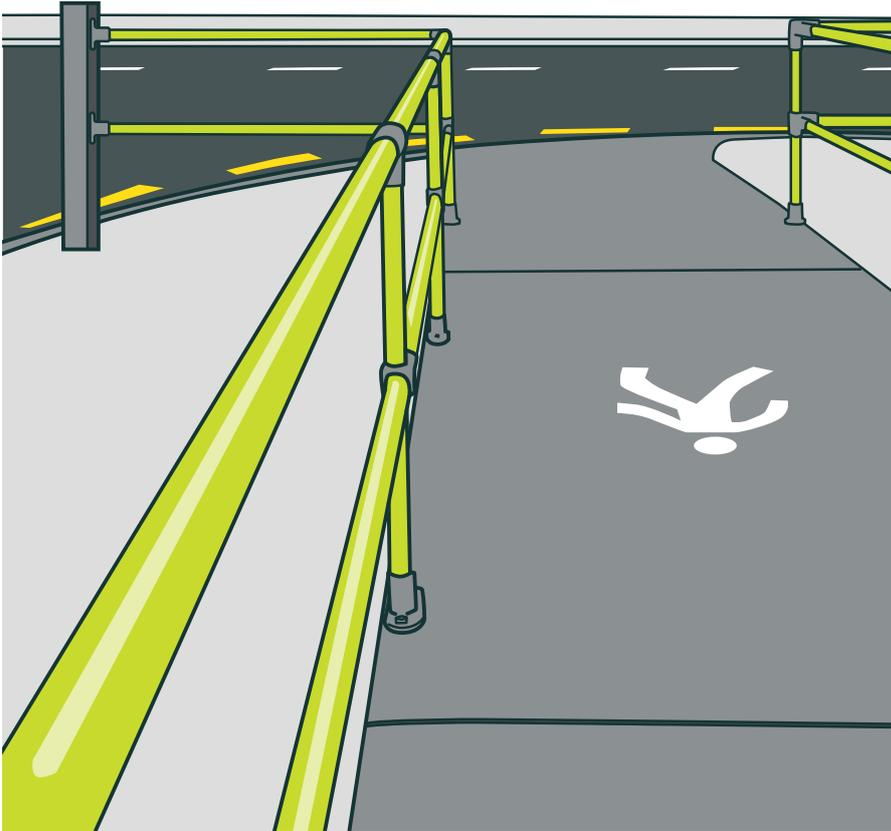

FIGURE 7:
- Have separate entrances and exits for vehicles and pedestrians (see Figures 7, 8 and 9).